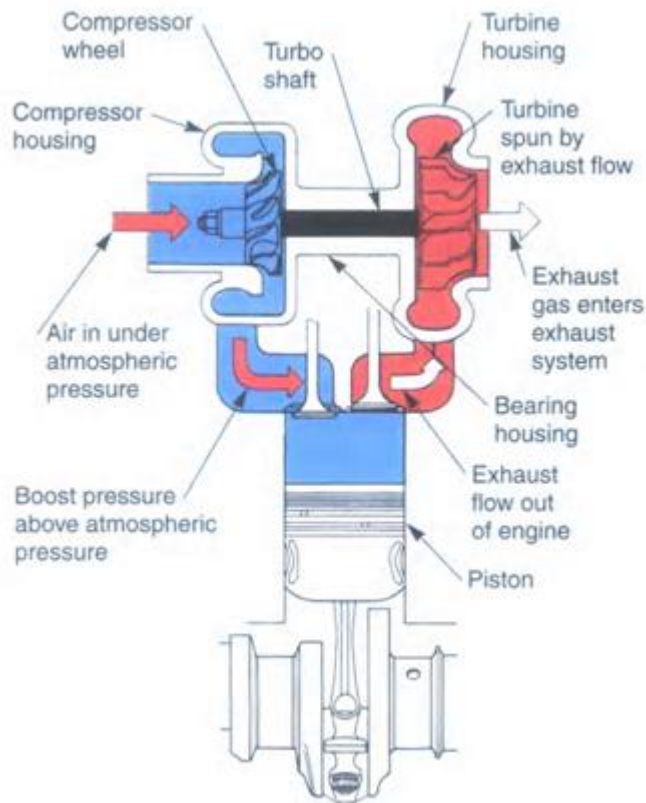

Fig. 4
- The exhaust manifold and connecting tubing route these gases into the turbine housing. Refer to Figure 4.
- As the gases pass through the turbine housing, they strike the fins on the turbine wheel. When engine load is high enough, there is enough exhaust gas flow to rapidly spin the turbine wheel, Figure 4.
The compressor wheel then pressurizes the air entering the engine for more power output. (Fig. 4 next page).